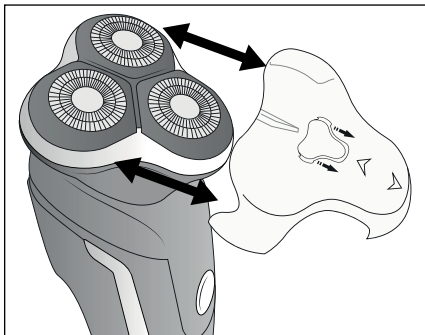

Fig. 1
- ◆ When you are not using the shaver, protect the shaving head by putting on the protective cap ①.
- ◆  Remove the protective cap ① by pulling it downwards off the cutting unit ② (see Fig. 1).